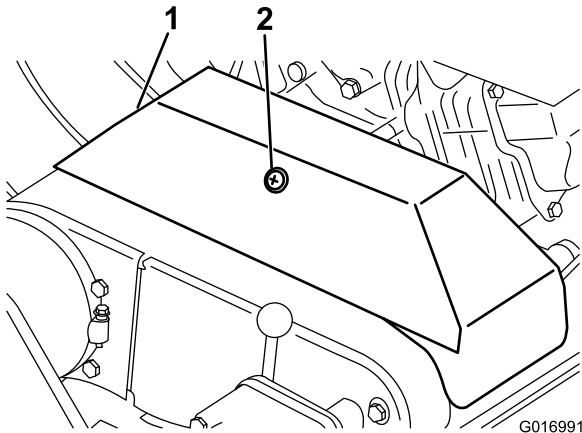

Figure 33
3. Loosen the retainer securing the V-belt cover and pivot the cover open (Figure 33).